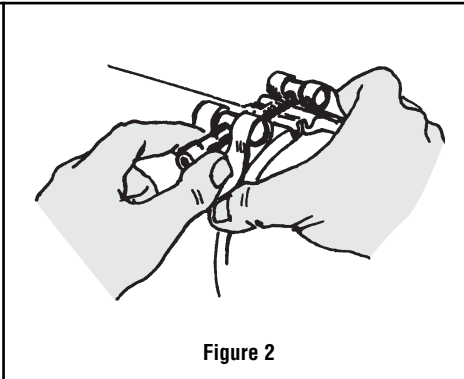

Figure 2
2. When heater band is correctly placed in the desired location, compress ends of band together and insert bolt through non-threaded trunnion socket and then into opposite threaded socket. Hand tighten (Figure 2).